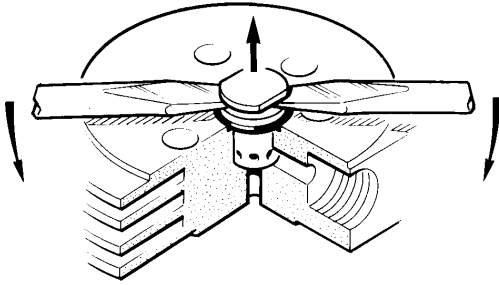

Fig. 21 Removal of 4th stage pressure valve
- Remove acorn nut (1), rewind stud (3) up to three or four turns.
- Remove internal hex. screw (9) fixing valve head (7), take off valve head cover (8).
- Put two screwdrivers into the groove of outlet valve body, see Fig. 21. If necessary loosen valve first by using a 13 mm spanner on the flat surfaces.
- Lift out pressure valve (5) together with O-ring (4).